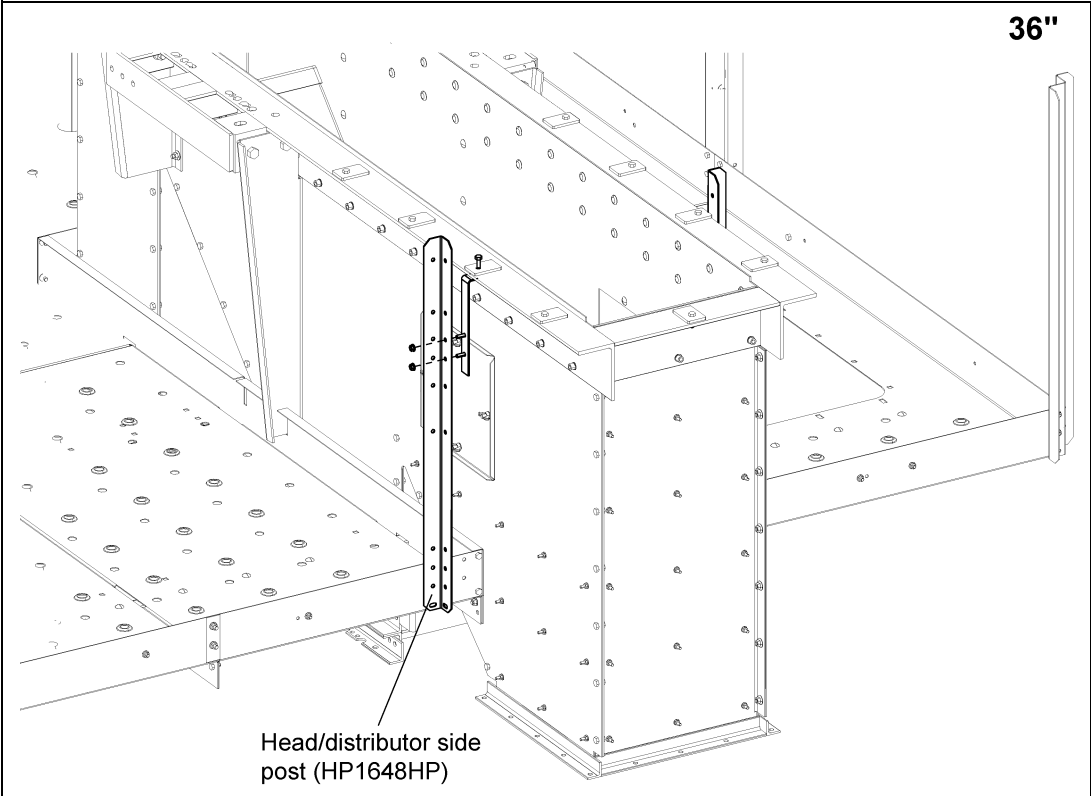

Figure 10H
- 2. Attach head side post (HP1648HP) to lower head using 5/16" x 3/4" bolts and nuts. (See Figure 10H.)